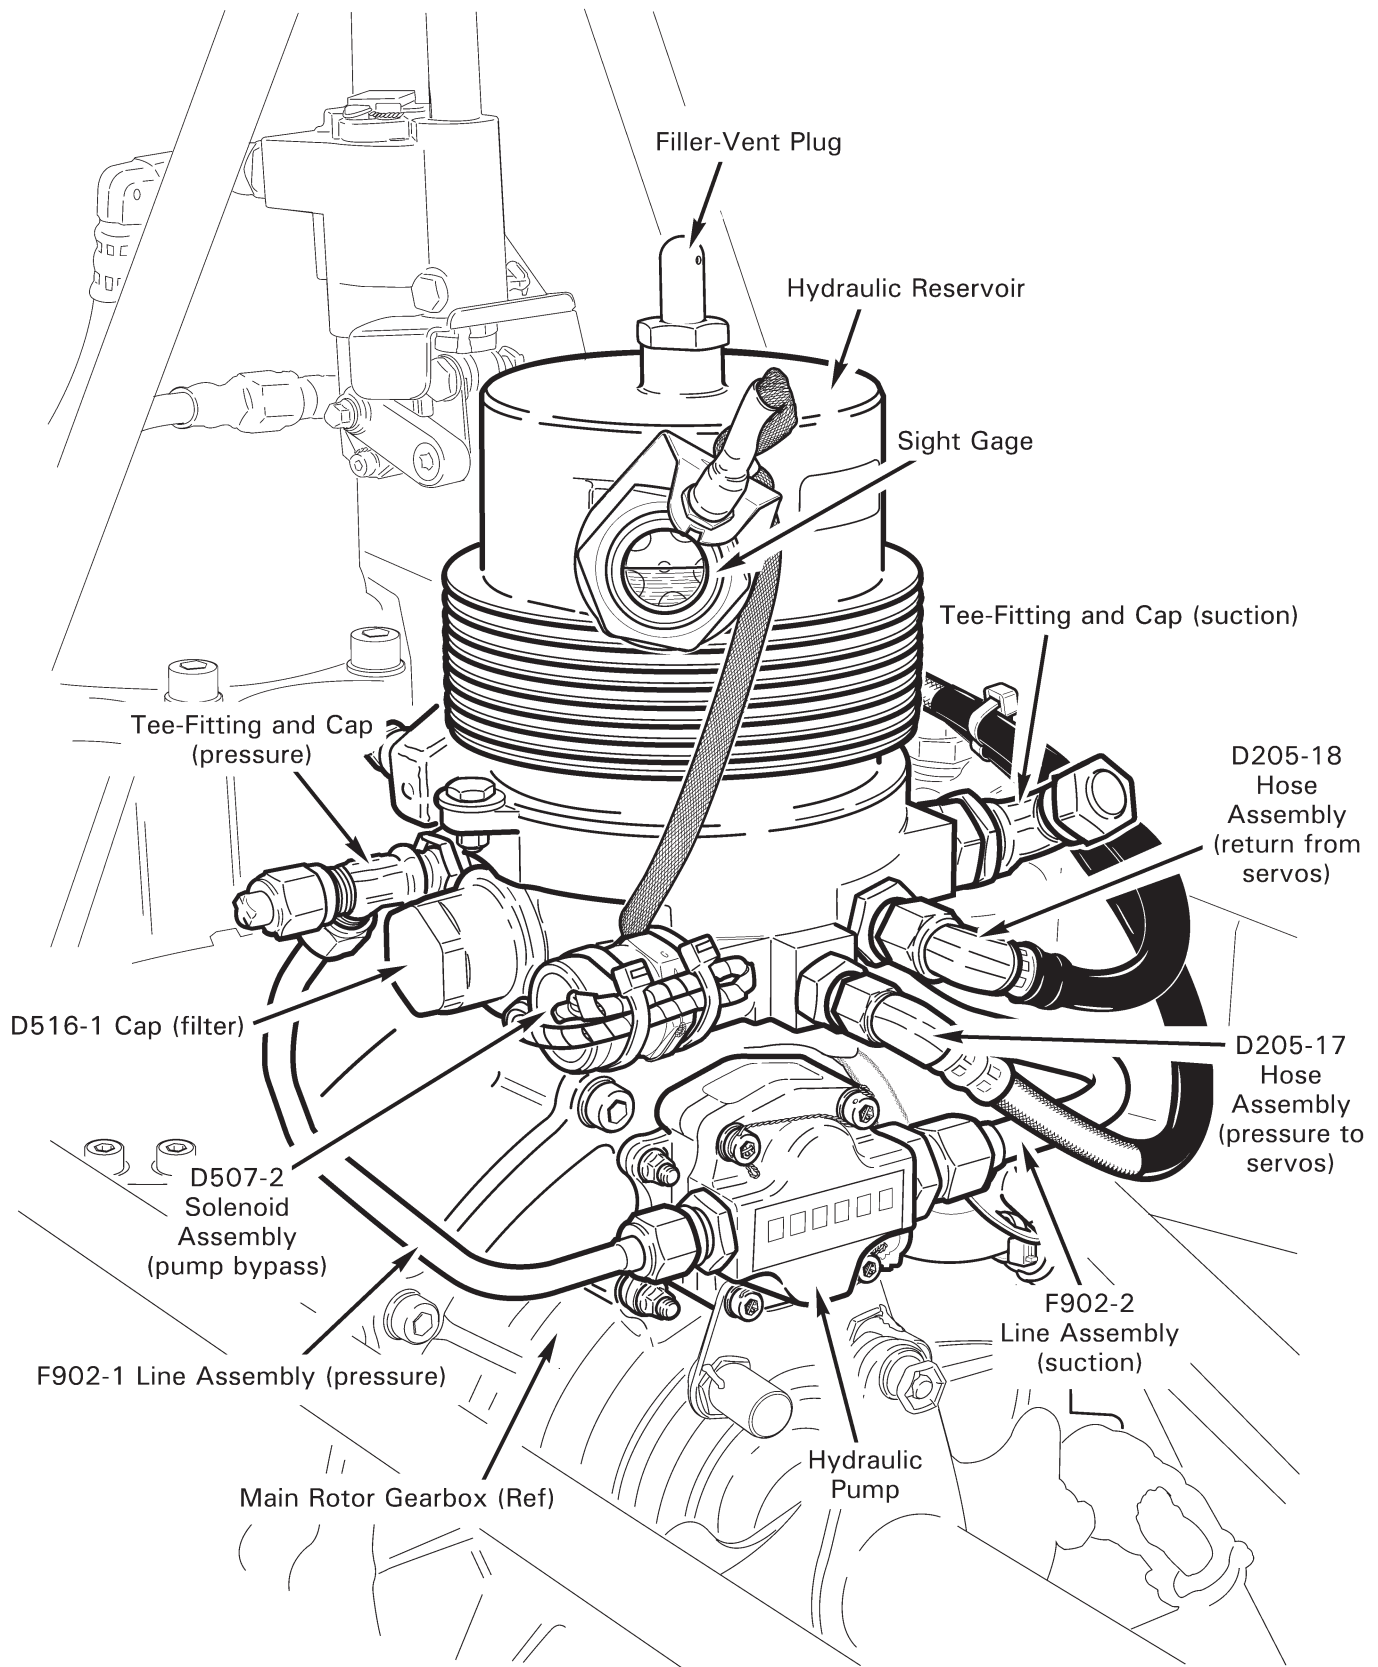

FIGURE 12-4 HYDRAULIC SYSTEM
1. Refer to Figure 12-4. Remove filler-vent plug. With system filled and bled, fill hydraulic reservoir to center of sight glass with new A257-15 fluid.
1. Refer to Figure 12-4. Remove D516-1 cap and filter and visually inspect element for contaminants. If element is clear, proceed to step 2. If metal contamination is found, use a magnet to determine if metal is ferrous. If metal is ferrous, perform the following: